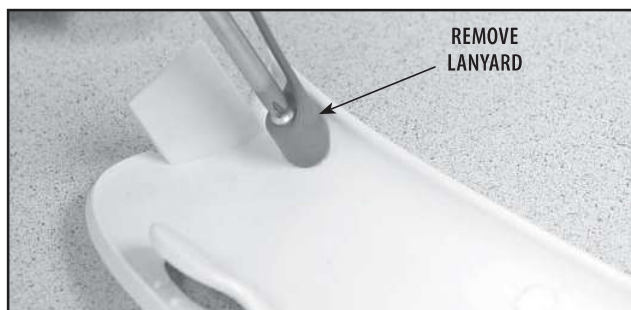

FIGURE 6.3
5. Using a #1 Phillips Screwdriver, remove the screw securing the Lanyard to the Front Access Panel. **See Figure 6.3.**